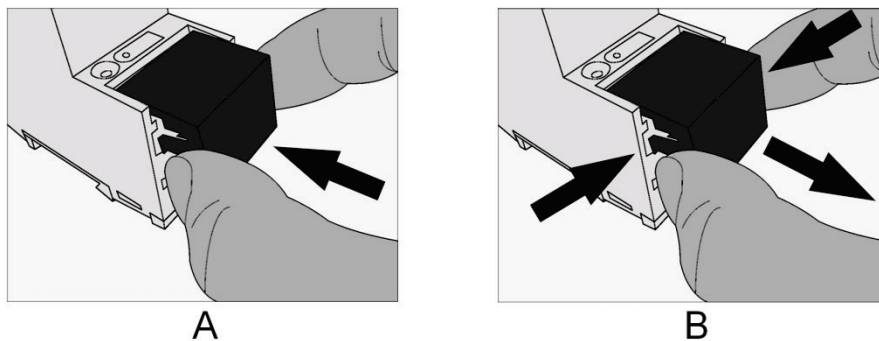

Figure 2: Fitting/removing a cover cap
- Fitting the cover cap: The cover cap is pushed over the bus terminal until you hear and feel it lock into position (compare Figure 2: Fitting/removing a cover cap (A)).
- Removing the cover cap: The cover cap is removed by pressing it in slightly on the side and pulling it off to the front (compare Figure 2: Fitting/removing a cover cap (B)).